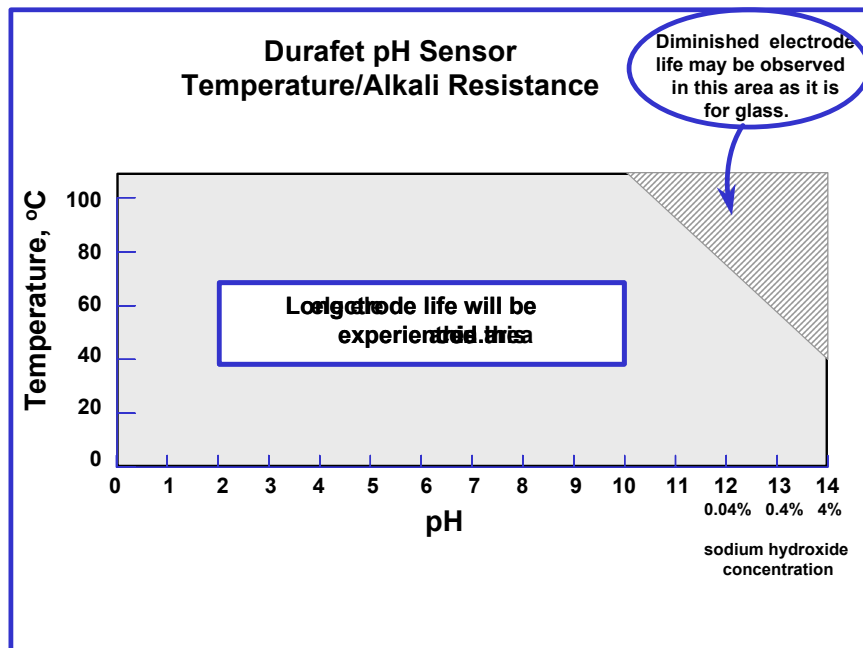

Figure 1-1 Temperature vs. Alkali Resistance
- Hot caustic (see Figure 1-1 below)